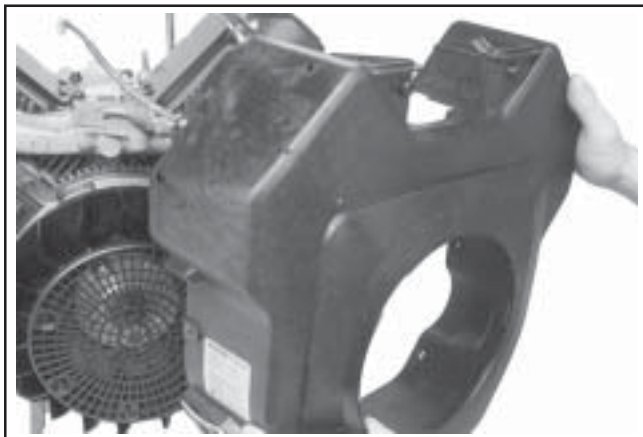

Figure 9-38. Removing Blower Housing.
9. Remove the remaining hex flange screws and detach the blower housing. See Figure 9-38.